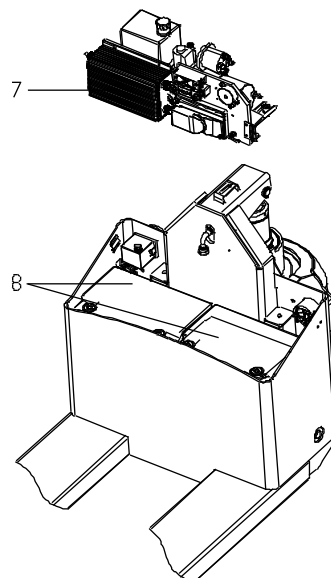

Fig 9
- (Fig 9) pull out the connector before removing the integration component7;
- (Fig 9) remove old battery8, assemble the new battery according to the opposite steps;